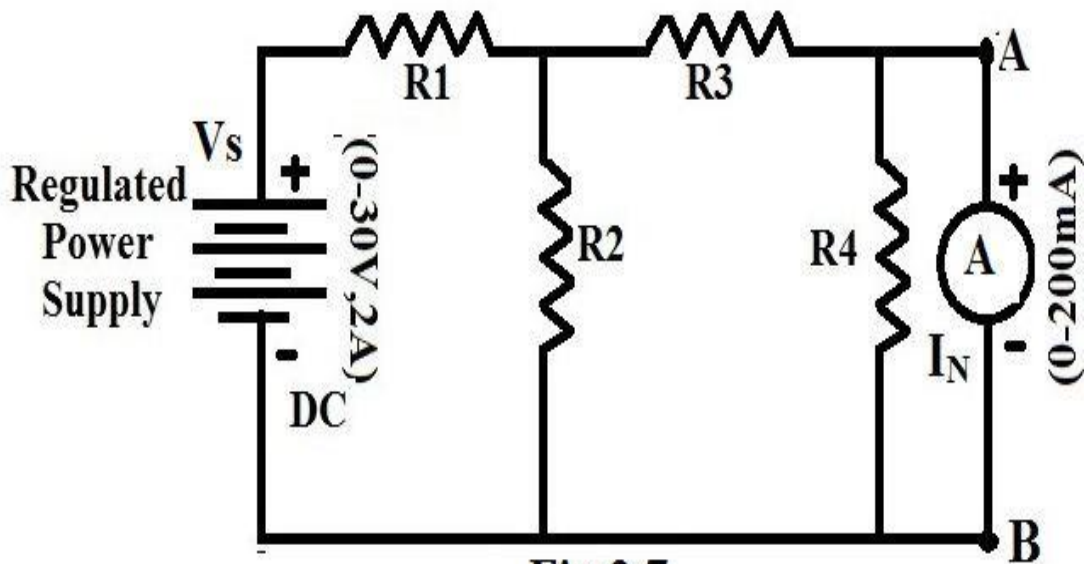

Fig:2.7
1. Connect the circuit as shown in Fig: 2.7 and by applying supply voltage  $V_S=5V$  through RPS, determine the short circuit current ( $I_N$  or  $I_{sc}$ ).